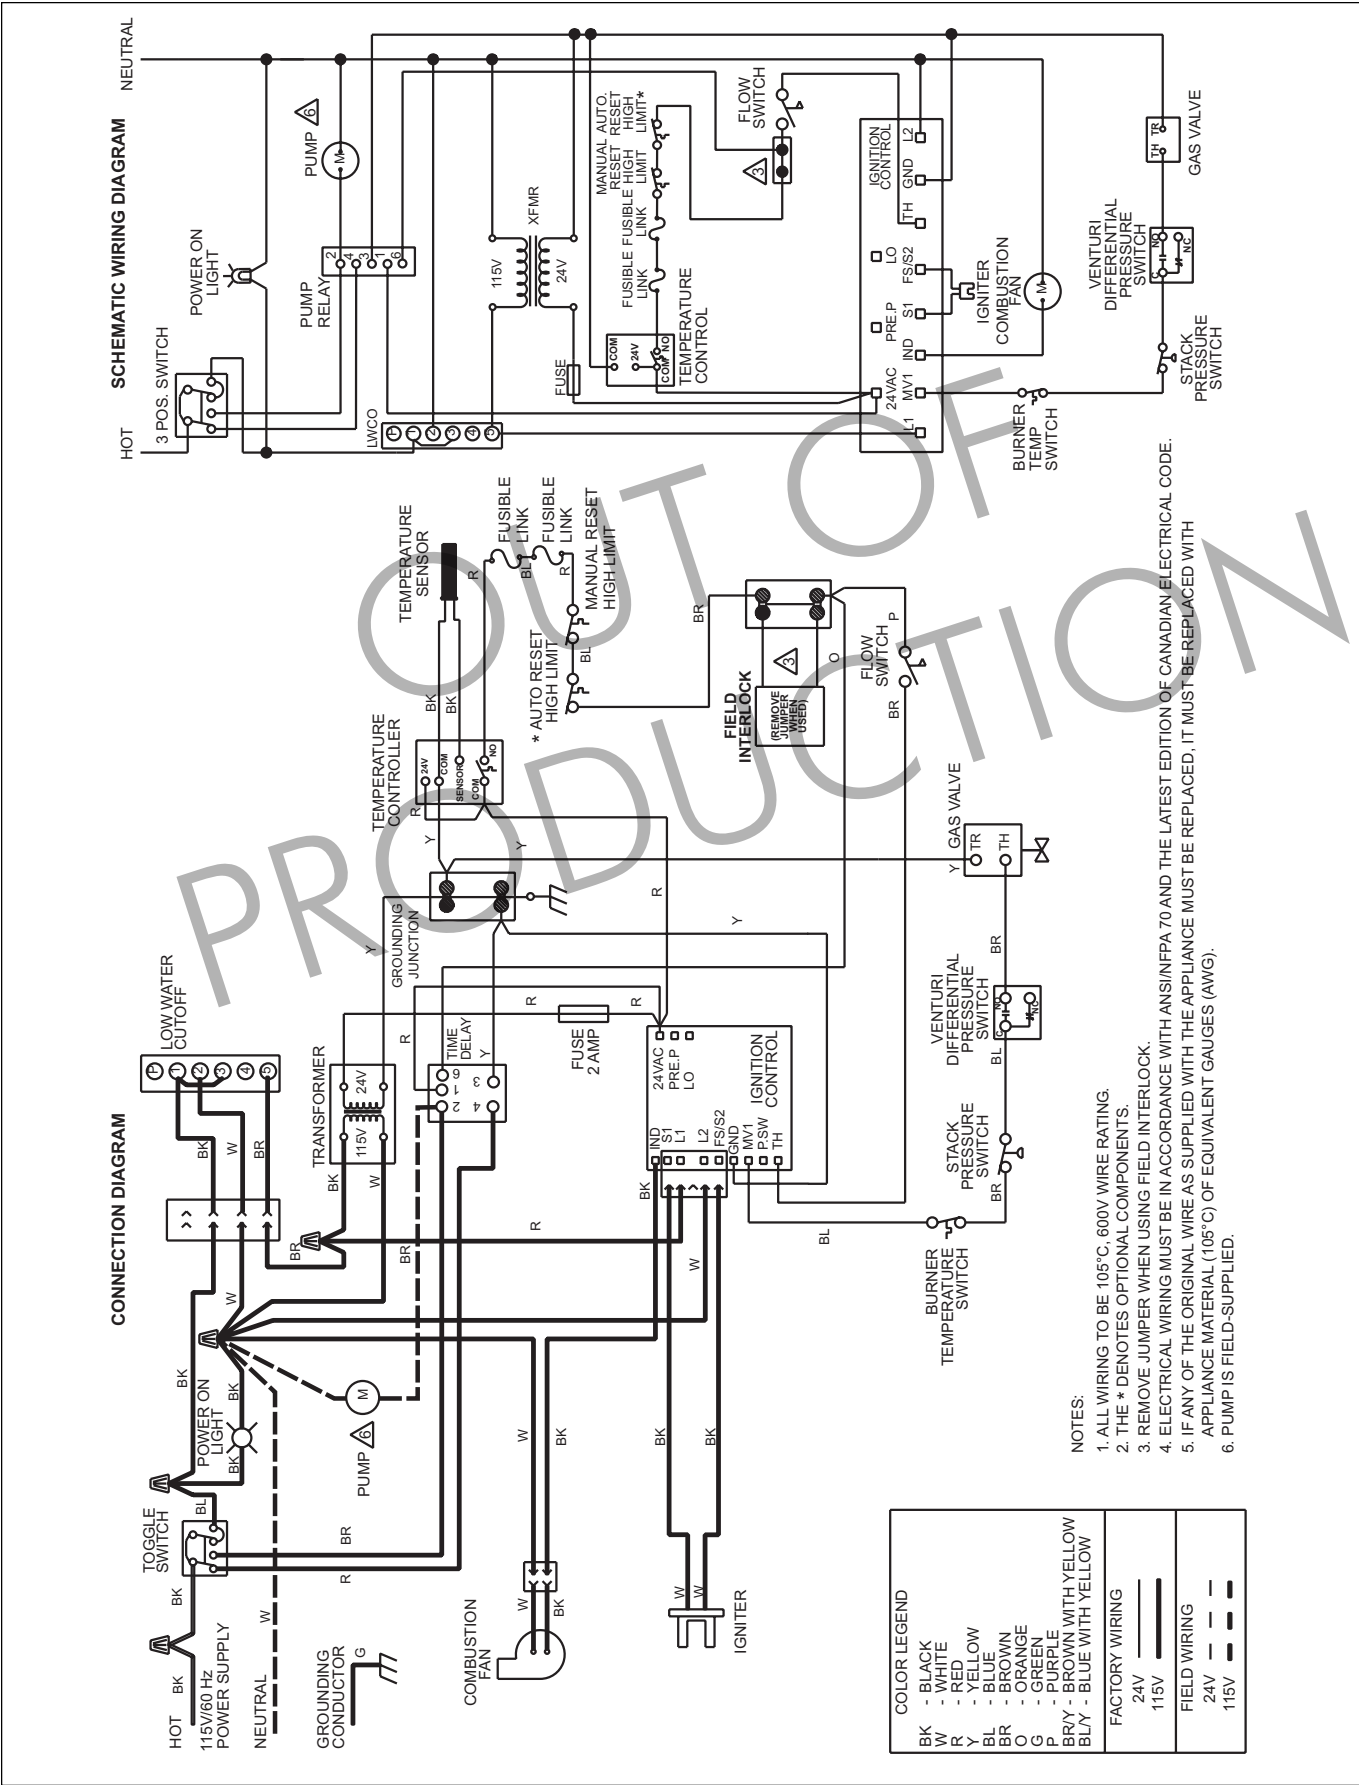

Figure 11. Wiring Diagram.
2. Wire the heater and pump exactly as shown in the wiring diagram supplied with the heater (see Figure 11).
4. Connect all field-installed devices (relays, timers, temperature devices, etc.) to the heater wiring at points labeled “Field Interlock” (see Figure 11).